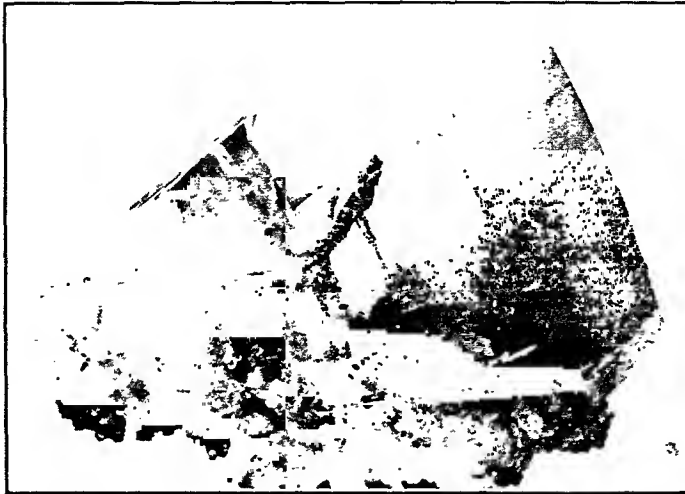

Figure 167. Barite on Dolomite, Frizington, Cumberland, England
*Occurrence:* It is a common and widely distributed mineral, often found in veins in limestone and also as a gangue mineral in metallic veins. Commercial deposits are numerous. Famous specimen localities are in the Frizington region, North of England, figures 167, 168, also in